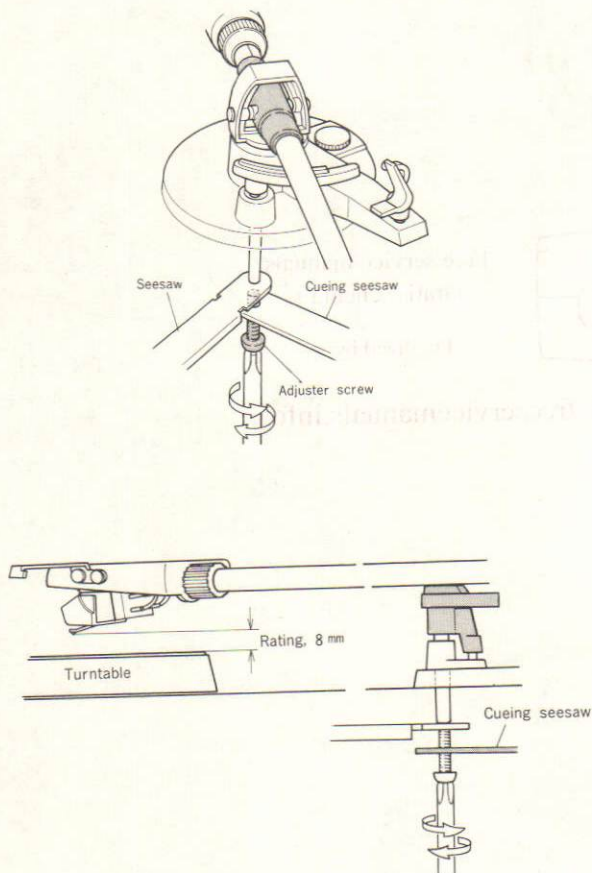

Fig. 5
- 1) Rotate the cueing seesaw adjust screw so that a clearance between the stylus tip and the surface of the record meets the specification (8 mm) when the tonearm is placed on the arm support and the cueing lever is set to the "⊙" position. When this clearance is more than the specification (8 mm), rotate the adjust screw counterclockwise and adjust. When this clearance is less than the specification (8 mm), rotate the adjust screw clockwise and adjust. (Refer to Fig. 5)